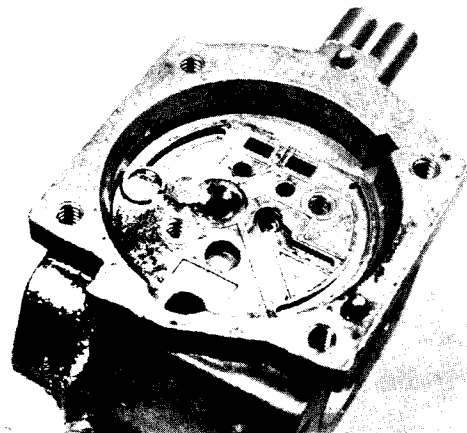

Fig. 55 — Retaining Ring and Screen Removed
7. Remove retaining ring and screen, Fig. 55.